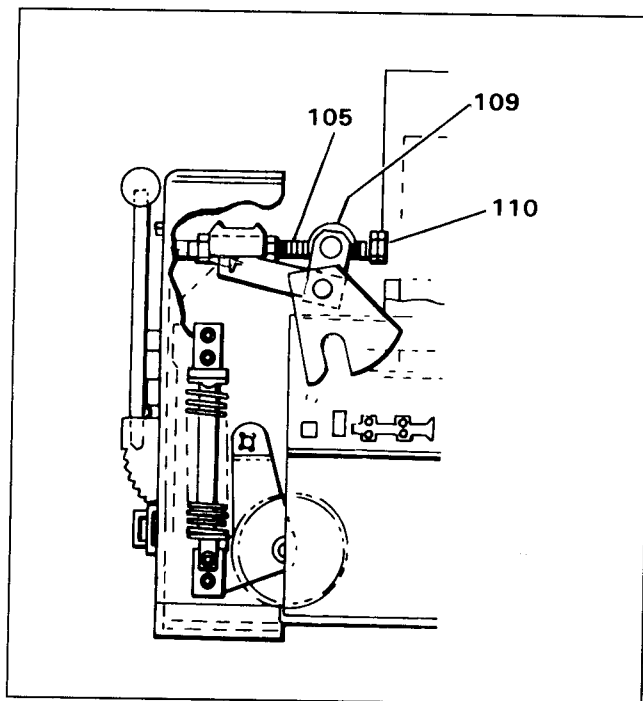

Figure 3. Detail of Typical Racking Mechanism and Drawout Interlock
Refer to **Figure 3**. With the circuit breaker resting on the cubicle rail, the following sequence should be used to rack the circuit breaker into the cubicle.
- Before attempting to operate the circuit breaker, the position of the device should be checked with reference to the holes in the cubicle, to be certain that it is fully connected. Two stop nuts are provided on the racking screw to set the connected position. These are adjusted by setting the angle of the racking clevis, as shown in **Figure 3**, and by tightening the nuts against the stop washer (109), the two nuts (110) should then be locked against each other.